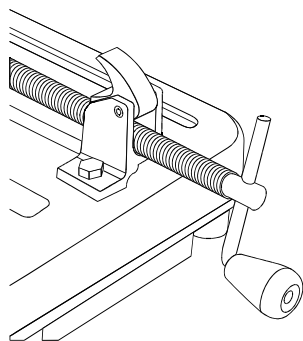

Figure 5
1. Open the vise by turning the vise adjustment crank 5 or 6 turns counterclockwise. (Figure 5)